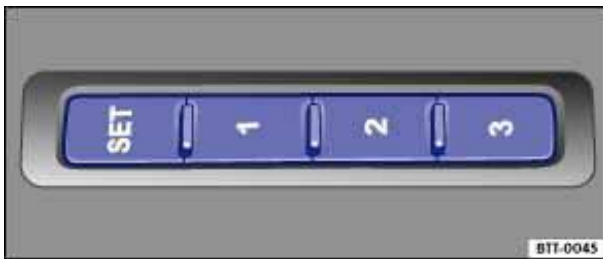

Fig. 45 On the outer side of the driver seat: Memory buttons.
- Press the **SET** button for at least 1 second ⇒ fig. 45.